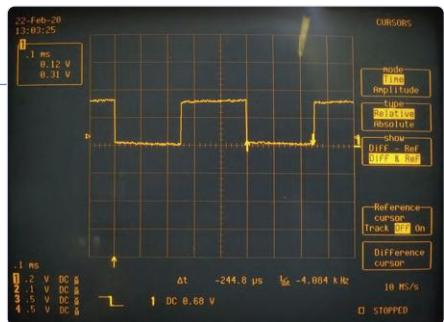

Figure 4: The output waveform displayed on a scope...
**Figures 4 and 5** shows the output signal generated and we can see that the high and low periods of the square wave are approximately equal. The switching time is not particularly fast nor stable.